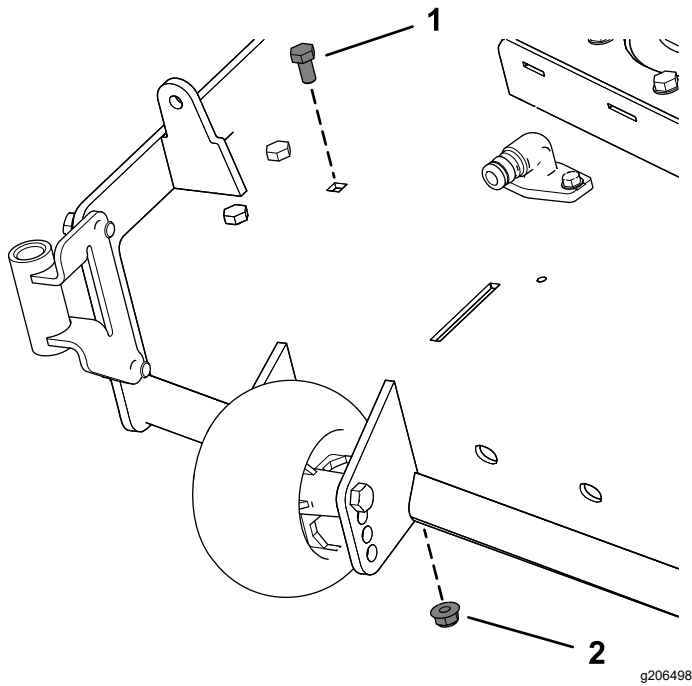

Figure 8
- Remove the existing bolt and nut from the mower deck (Figure 8).
For 54-inch mower deck, remove the bolt and nut as shown in Figure 8.